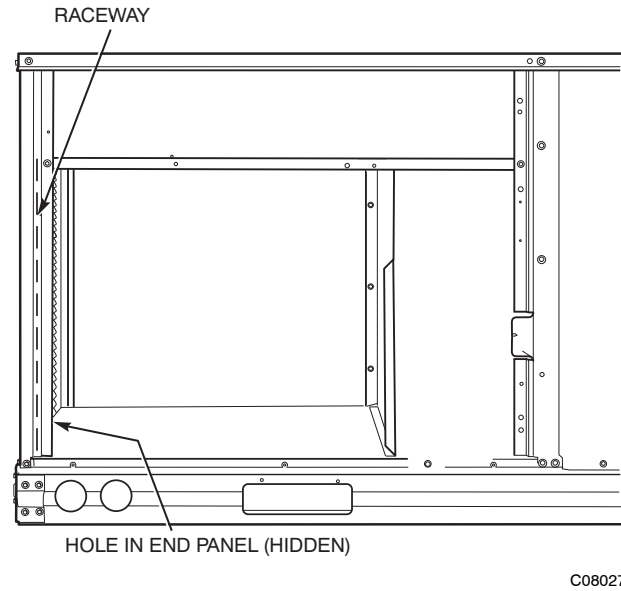

Fig. 30 - Field Control Wiring Raceway
Pass the thermostat control wires through the hole provided in the end panel (see item “D” in the view labeled “LEFT” in Fig. 1 or Fig. 2); then feed the wires through the raceway built into the corner post to the control box. Pull the wires over to the terminal strip on the upper-left corner of the Central Terminal Board (CTB). See Fig. 30.
2. Feed wires through the raceway built into the corner post (see Fig. 30) to the 24-v barrier located on the left side of the control box. The raceway provides the UL-required clearance between high-voltage and low-voltage wiring.
Field connections for accessory sensors and input devices are made the RTU Open, at plugs J1, J2, J4, J5, J11 and J20. All field control wiring that connects to the RTU Open must be routed through the raceway built into the corner post as shown in Fig. 30. The raceway provides the UL required clearance between high- and low-voltage wiring. Pass the control wires through the hole provided in the corner post, then feed the wires thorough the raceway to the RTU Open. Connect to the wires to the removable Phoenix connectors and then reconnect the connectors to the board.